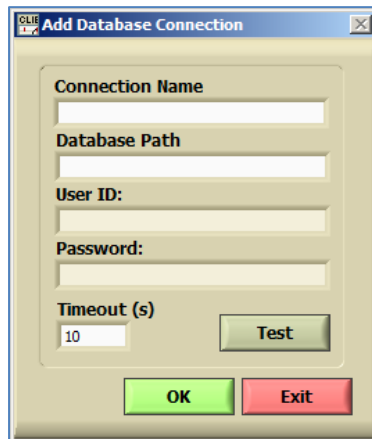

Figure 1.2.2-1: The **Add Database Connection** Window
1. Click the **Add** button on **Manage Database Connections** window. The **Add Database Connection** window will appear. (Figure 1.2.2-1)